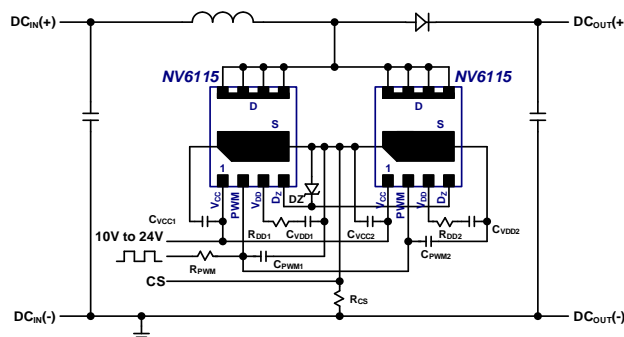

Fig. 25. Boost schematic using two parallel ICs
For some applications it is desirable to parallel ICs in order to reduce conduction losses and temperatures. Two NV6115 ICs can be connected in parallel in a PFC boost application working in boundary-conduction mode (BCM) only. The parallel configuration for two NV6115 ICs is shown in Fig. 25. The paired pins that are connected together include the drain pins (D), the source pins (S), the V_{CC} pins, the PWM pins, and the D_Z . A single D_Z diode can be shared by both ICs. The V_{DD} pins are not connected together and require separate V_{DD} supply capacitors (C_{VDD1} , C_{VDD2}) and separate turn-on current set resistors (R_{DD1} , R_{DD2}). Each IC should have its own local V_{CC} supply filter capacitor (C_{VCC1} , C_{VCC2}). The PWM pins can have a single filter resistor (R_{PWM}) but separate filter capacitors (C_{PWM1} , C_{PWM2}) should be placed at the PWM pin of each IC. When designing the PCB layout for the two paralleled ICs, the drain and source connections should be made as symmetrical as possible to avoid any parasitic inductance or capacitance mismatch. A proper PCB layout example for paralleling is shown in Section 10.